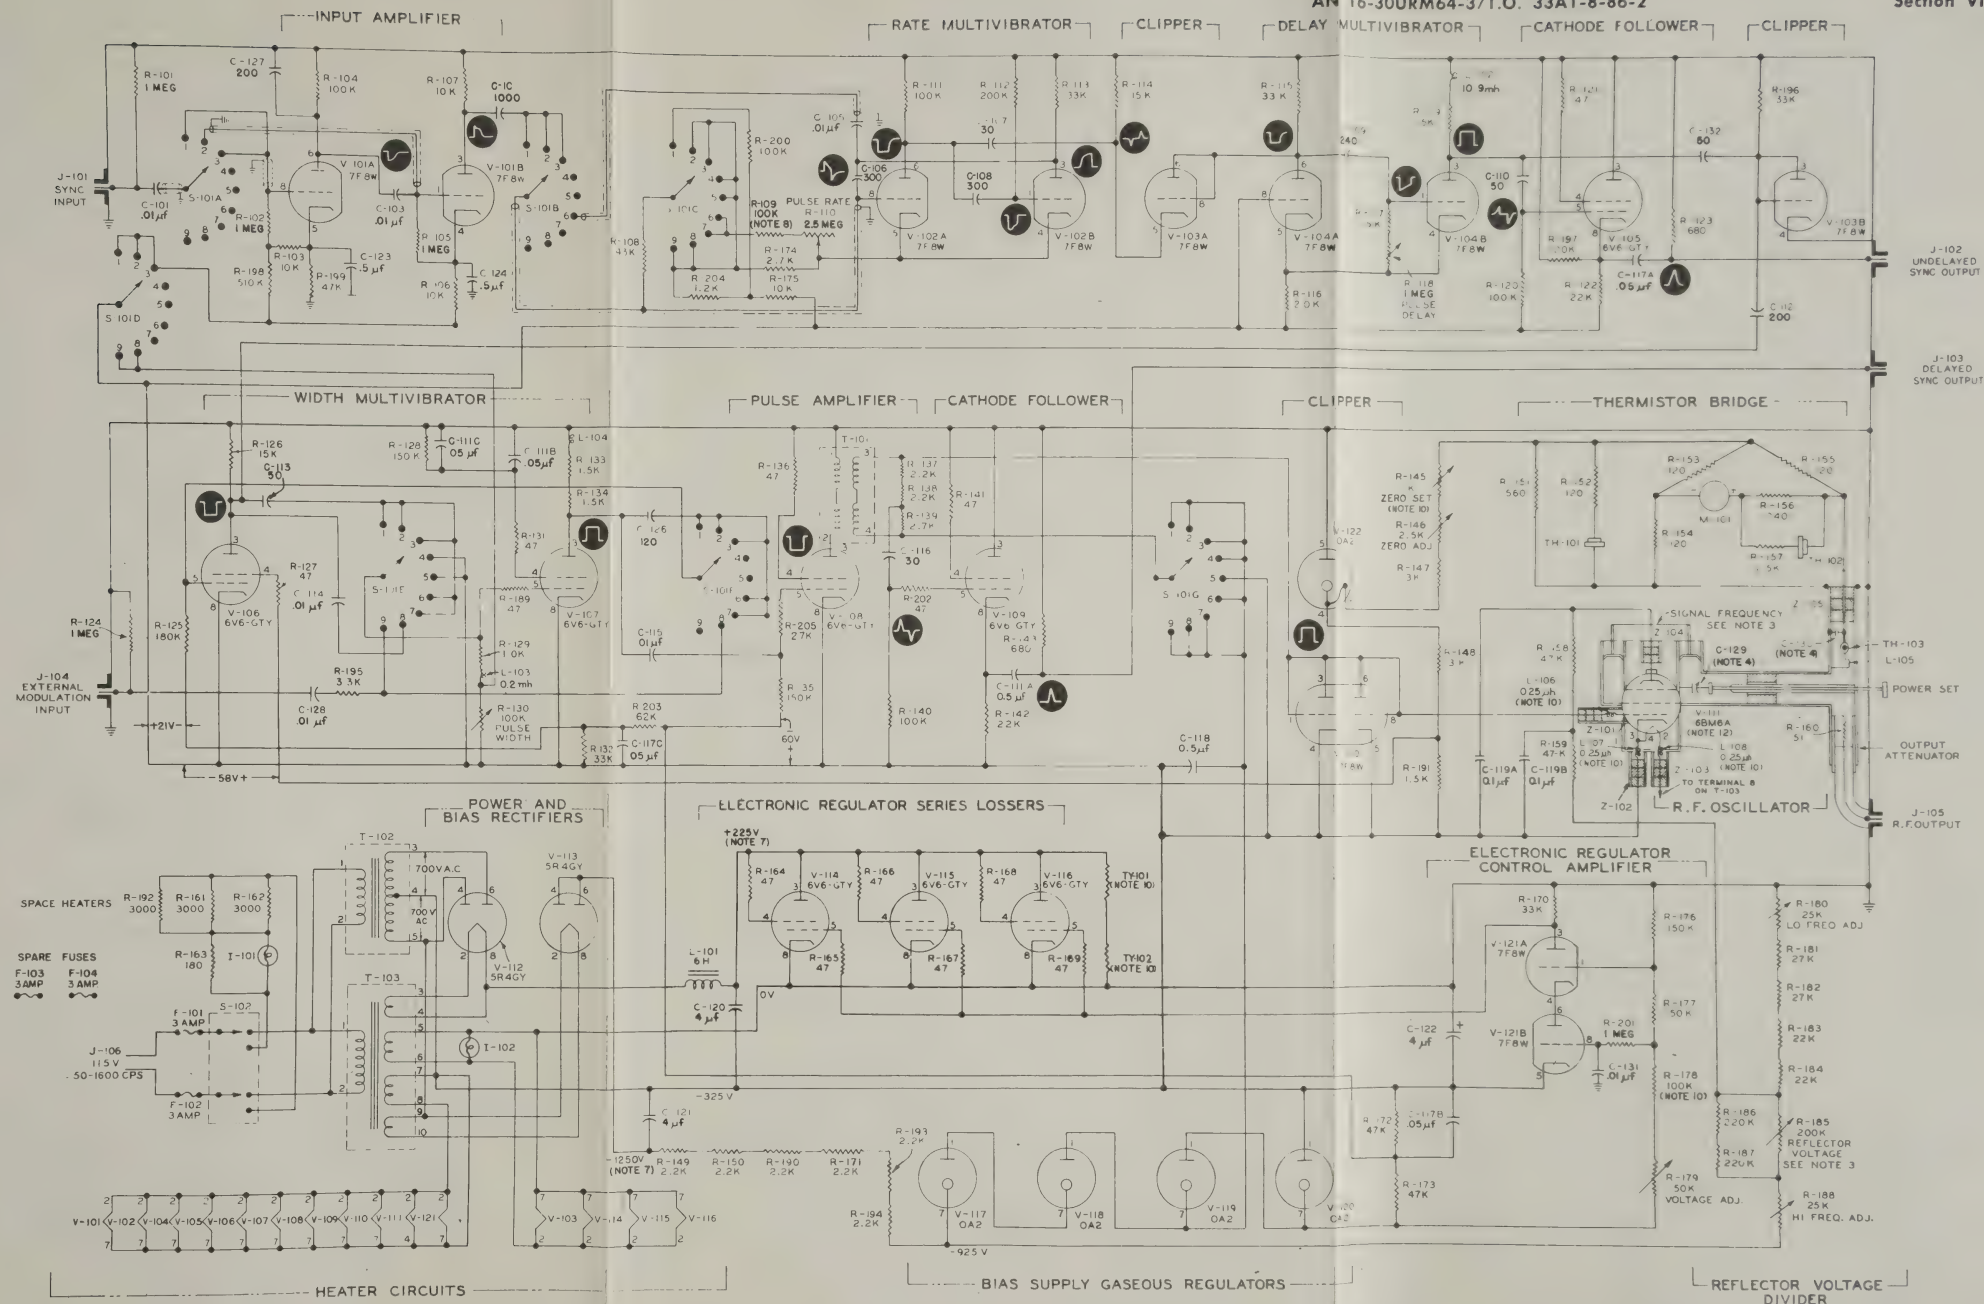

Figure 7-1A. Signal Generator TS-419/U, Schematic Diagram
9. SEE FIGURES 7-1A, 7-1B, AND 7-1C FOR CIRCUIT USED IN EQUIPMENTS OF OTHER CONTRACTS.